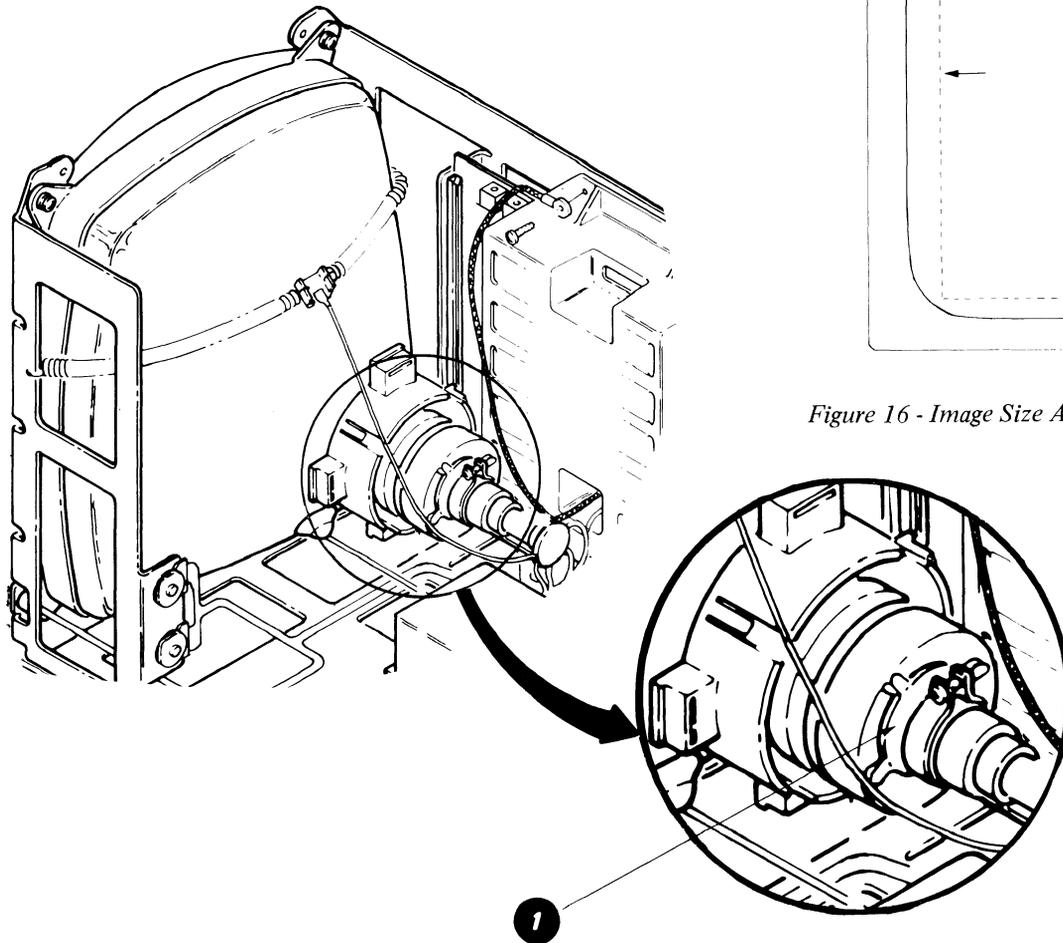

Figure 15 - Centering Rings
2. With the test pattern showing on the display screen, rotate one of the centering rings **1** until the square tabs on the two rings are aligned (see Figure 15).